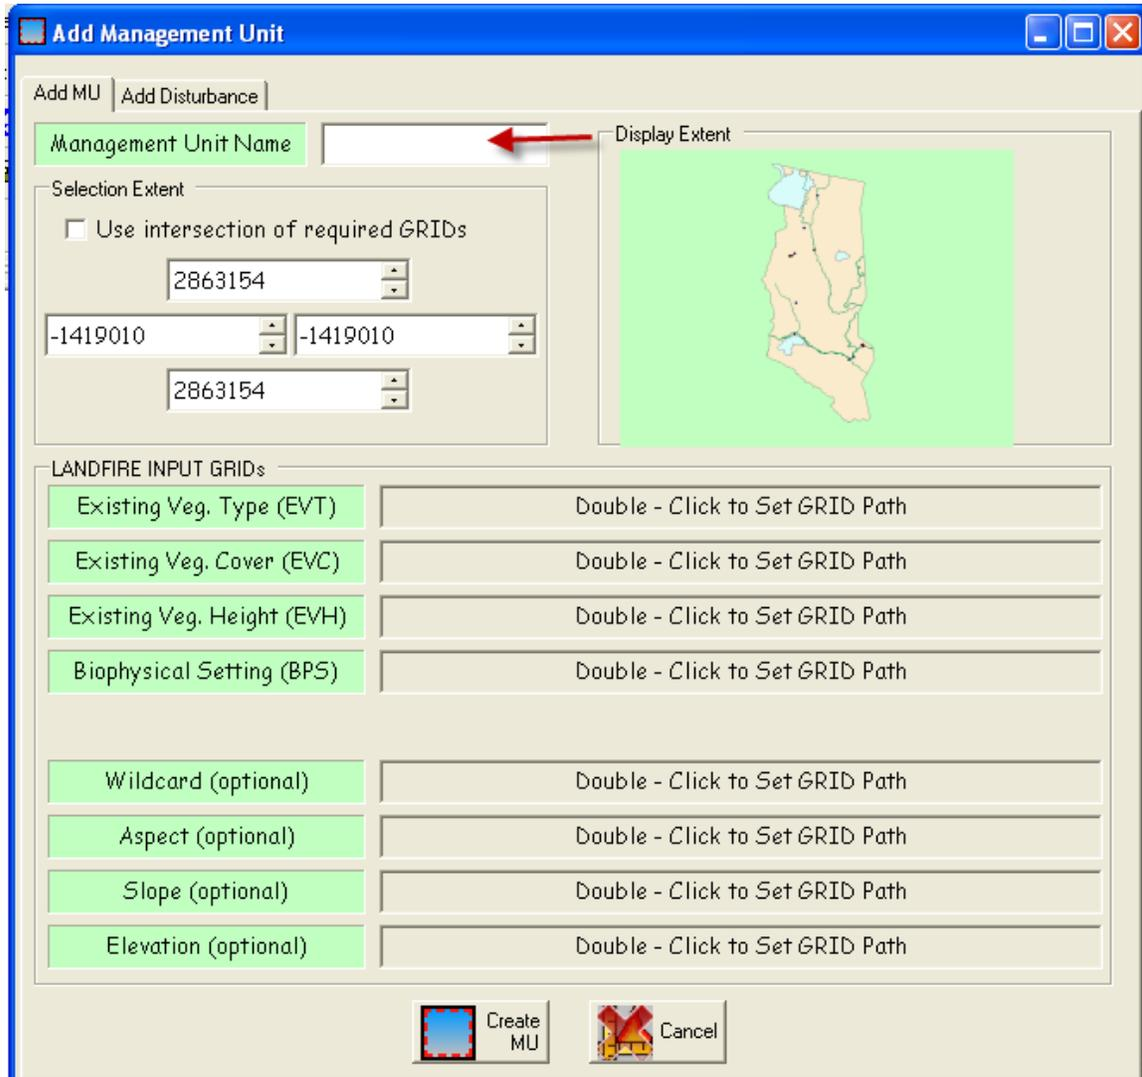

Figure 6-6. Select the Management Unit Name (**ADD MU** screen visible).
The **Add Management Unit** dialog box opens as shown with the **Add MU** tab visible (fig. 6-6).
- To use the drawing rectangle, use your cursor to drag an extent rectangle in the “Display Extent” window of the dialog box (fig. 6-6).
- With the **Add MU** tab selected, type a **Management Unit Name** in the box provided (fig 6-6).